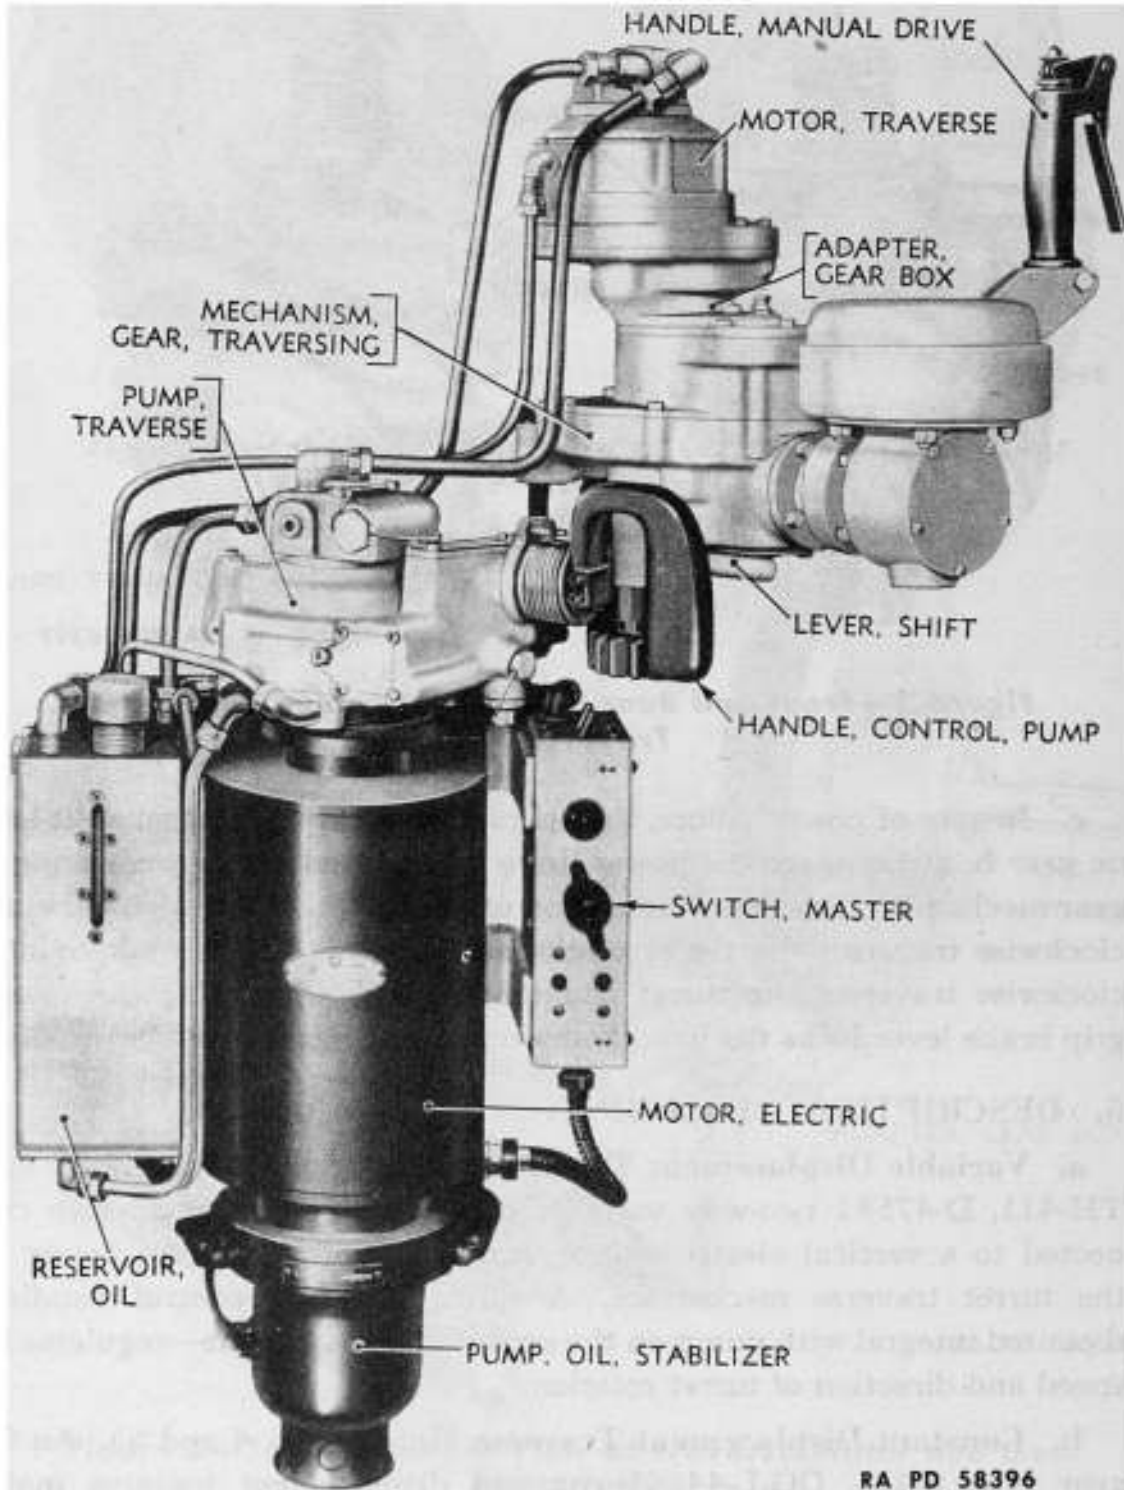

Figure 2 – Hydraulic Turret Traversing Mechanism Installation
d. **Traversing Gear Mechanism and Manual Drive D51037** (fig. 2). The traversing gear mechanism transmits the power from the gear box adapter to the turret ring gear. Integral with the gear box is a gear shifter lever for selecting the hydraulic or hand traverse. The manual drive control is also mounted on the gear box.